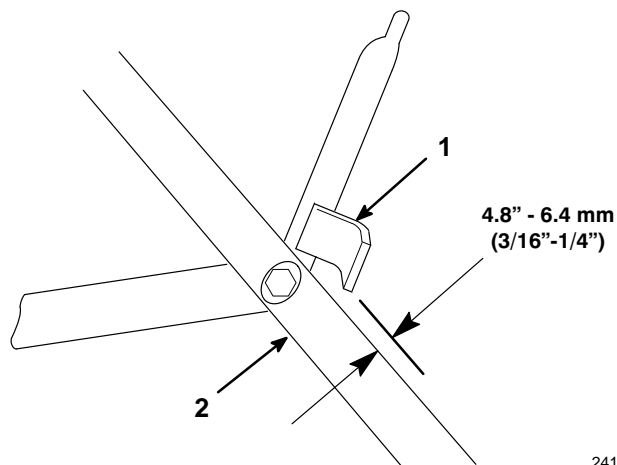

Figure 29
2. **CHECK ADJUSTMENT** (Fig. 29)—Move control bar toward handle until slack in wire is removed. Gap between brake lever and handle must be 4.8-6.4 mm (3/16"-1/4"). See step 3 for adjustment.